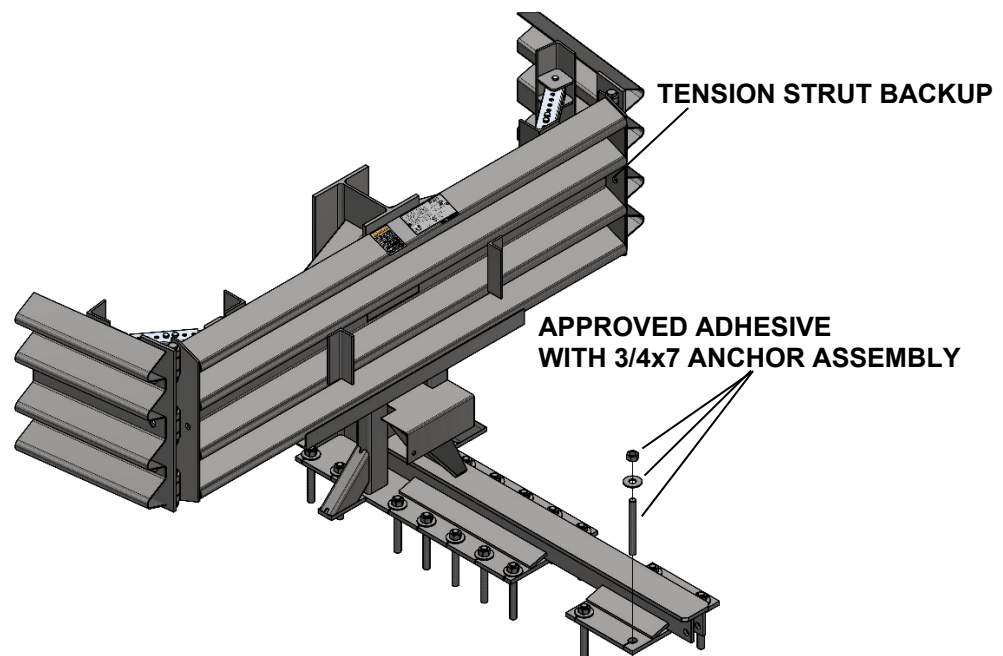

Figure 14
2) Anchor the Tension Strut Backup (Figure 14)